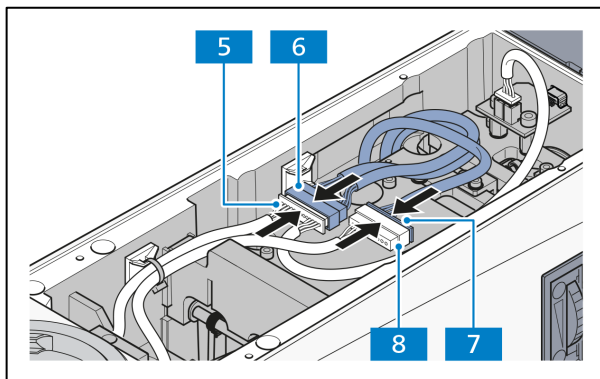

Fig. 3-58 Establish the cable connections
- Establish the cable connection between the main control board (Fig. 3-58/7) of the lower stand part and the nosepiece sensor of the upper stand part (Fig. 3-58/8).
- Establish the cable connection between the main control board (Fig. 3-58/6) and the turret sensor/RL LED interface (Fig. 3-58/5).